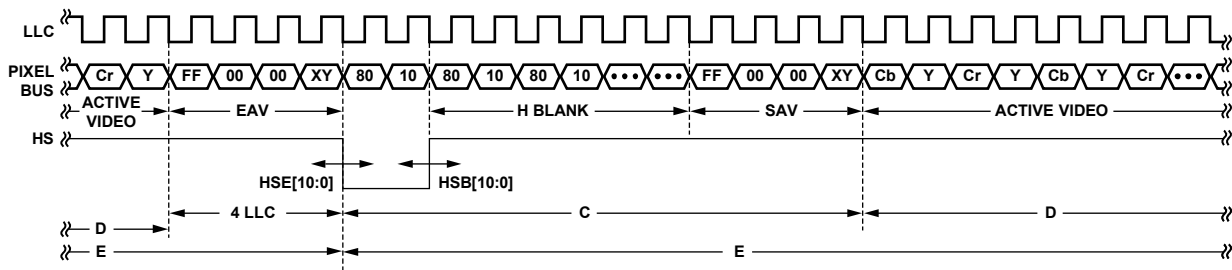

Figure 37. HS Timing
The position of this edge is controlled by placing a binary number into HSB[10:0]. The number applied offsets the edge with respect to an internal counter that is reset to 0 immediately after EAV Code FF, 00, 00, XY (see Figure 37). HSB is set to 00000000010b, which is two LLC clock cycles from count [0].
The position of this edge is controlled by placing a binary number into HSE[10:0]. The number applied offsets the edge with respect to an internal counter that is reset to 0 immediately after EAV Code FF, 00, 00, XY (see Figure 37). HSE is set to 00000000000b, which is 0 LLC clock cycles from count [0].
**Table 64. HS Timing Parameters (See Figure 37)**